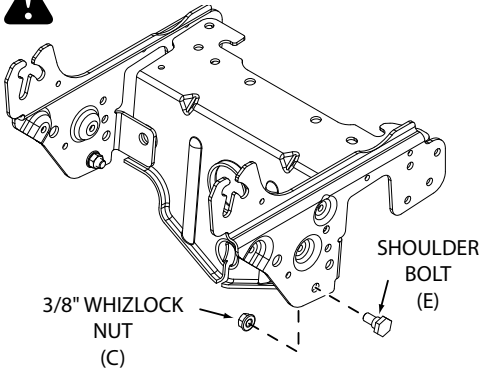

FIGURE 4
Step 4: (Fig. 4)
1. Assemble a 0.9 x 3/8" shoulder bolt (E) and 3/8" whizlock nut (C) to each side of the tractor frame. Tighten.